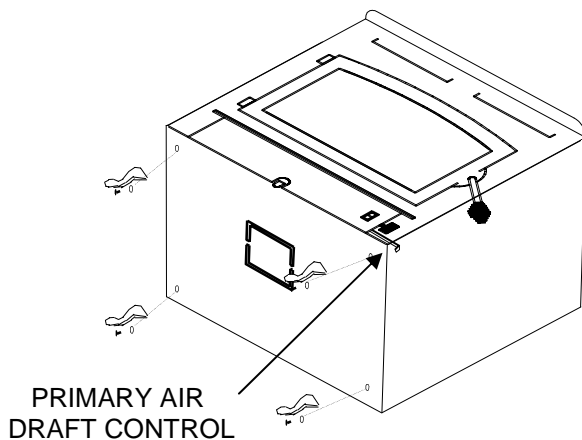

Figure 20
3. Check the primary air draft control to ensure that it slides freely.(See Figure 20).
6. Then obtain four legs, attach legs to holes in bottom of unit with bolts and washers supplied with the leg kit. (See Figure 20).